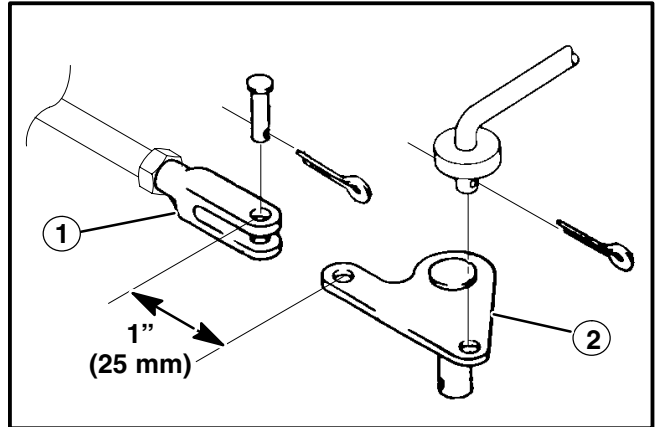

Figure 16
3. Rotate and push on pivot toward adjustable rod while pulling on the rod end toward pivot with 5 pounds (2.26 kg) of force. The distance center to center between the rod yoke end and pivot connector should be one inch (25mm). Turn rod yoke in or out until proper dimensioning is achieved (See Fig. 16).